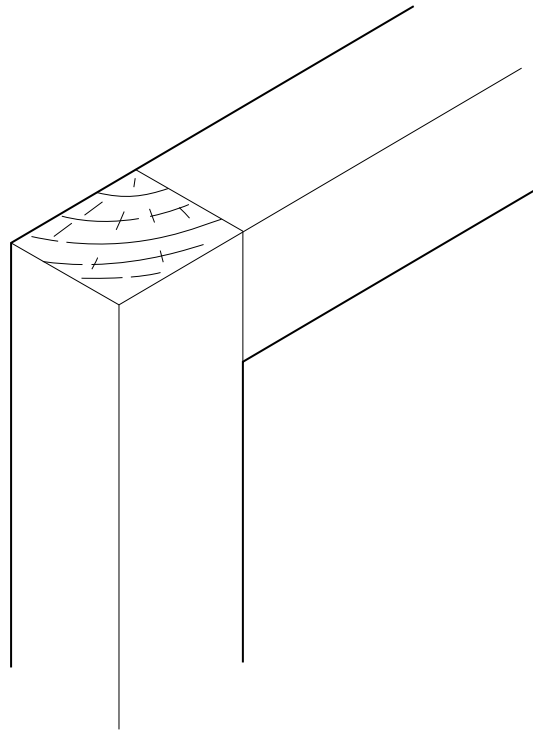

Fig. 3
- 7 Fig. 3 shows part of a wooden frame.
Add to Fig. 3 to show how the corner joint could be strengthened.